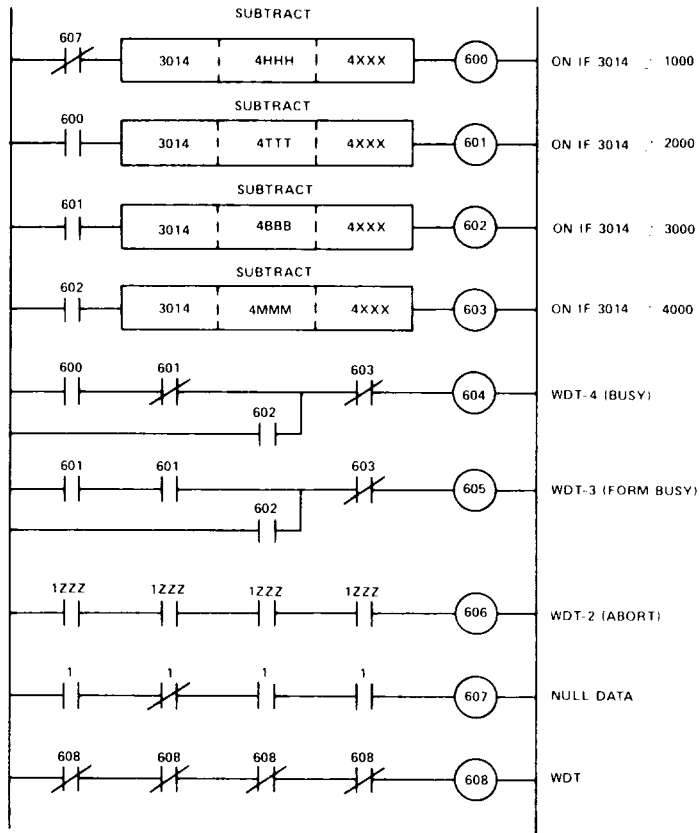

Figure 98. Typical Printer Control Lines using Register Inputs
If matrix capabilities are not available, subtraction lines similar to those in Figure 98 can be used. As an example, assume the Busy and Form Busy inputs are connected to the one and two lines of the thousands digit of BCD register 3014. The Abort signal is assumed to be a discrete input connected to 1ZZZ. Storage registers 4HHH, 4TTT, 4BBB, and 4MMM contain the values 1000, 2000, 3000, and 4000, respectively; lines 600, 601, 602, and 603 will be ON if, and only if, the contents of register 3014 exceeds or equals the values 1000, 2000, 3000, and 4000 respectively. Thus, the Busy line (604) will be ON if the thousands digit of register 3014 is a one (1) or a three (3) and the Form Busy line (605) will be ON if this digit is a two (2) or three (3).